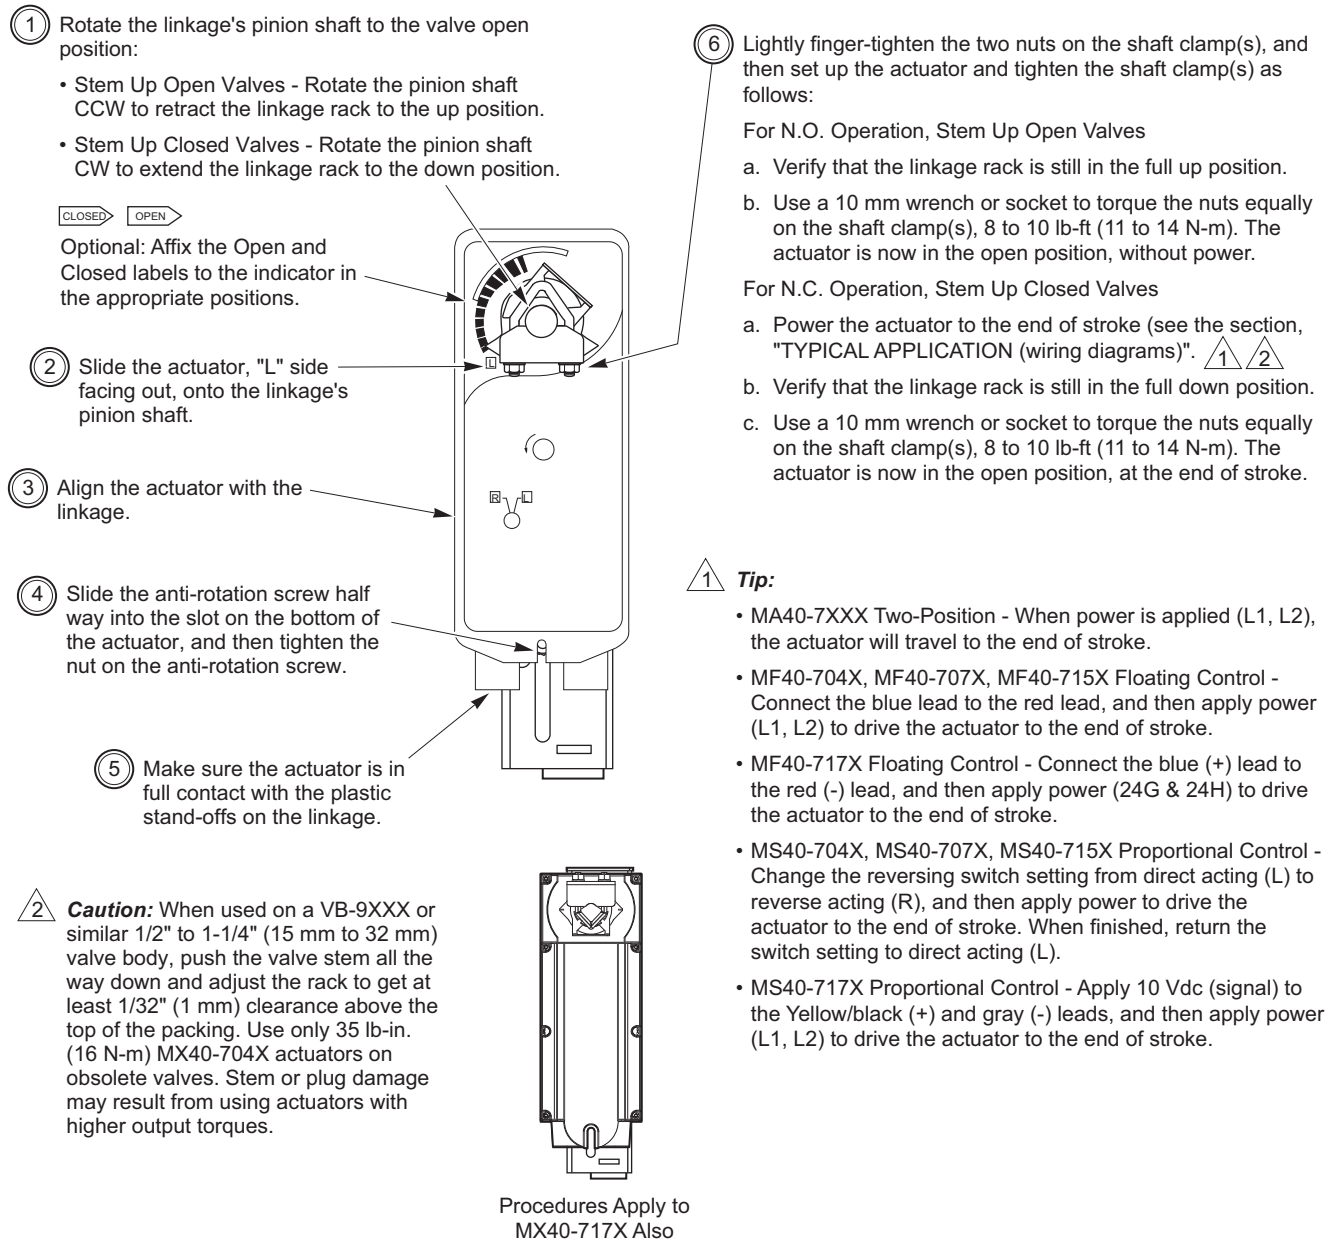

Figure-14 Mounting Spring-Return Actuator on 2-Way Valve and Setting up Actuator/Linkage/Valve Assembly.
- a. Install the actuator onto the linkage and 2-way valve, and set up the assembly, according to Figure-14.